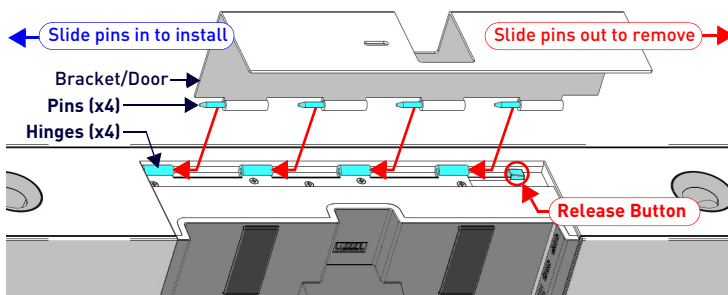

FIG. 3 ACV-2100 BOTTOM VIEW - REMOVING THE WALL MOUNT BRACKET
3. Lift the Wall Mount Bracket off of the hinges to remove (FIG. 3):
2. Attach the ACV-2100 to the Bracket/Door by sliding the pins on the Bracket into the hinges on the rear of the main unit (see FIG. 3):
- b. Carefully slide the pins into the hinges, until the Bracket/door snaps into place. **Note:** Press the door into place so that the last pin depresses the Release Button, allowing the pins to slide into the hinges (see FIG. 3).